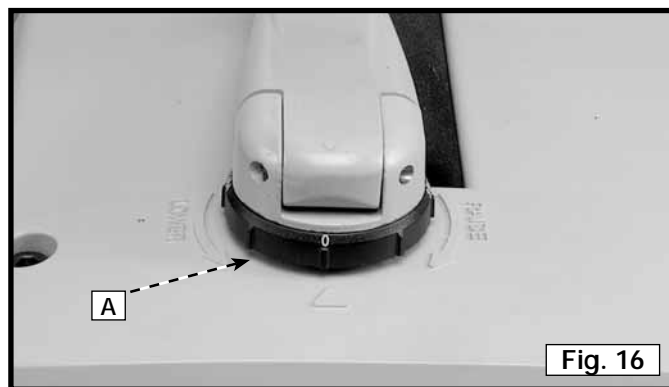

Fig. 16
The cutterhead adjusting handle has an adjustment ring (A) Fig. 16. To use the adjustment ring to make fine adjustments: